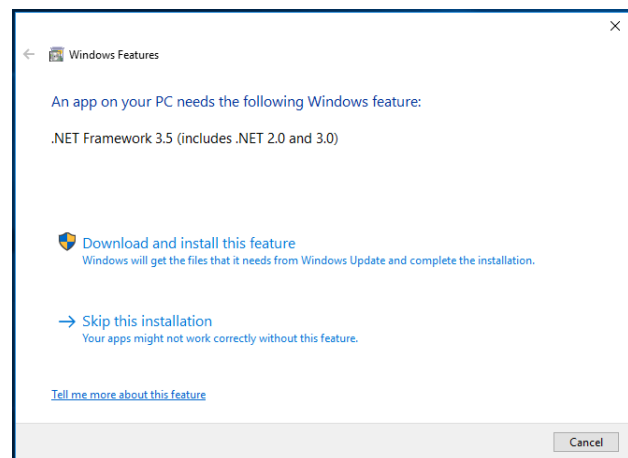

Figure 11. Restarting the PC
- When the Eval+ Dependencies installer reaches the .Net Framework, the window shown in Figure 11 will appear.
- If the window in Figure 11 does not appear; v3.5 may already be installed. To check if the software is already installed open **Control Panel > Programs > Programs and Features** and select **Turn Windows features on or off**. Check that the .Net Framework v3.5 is enabled.